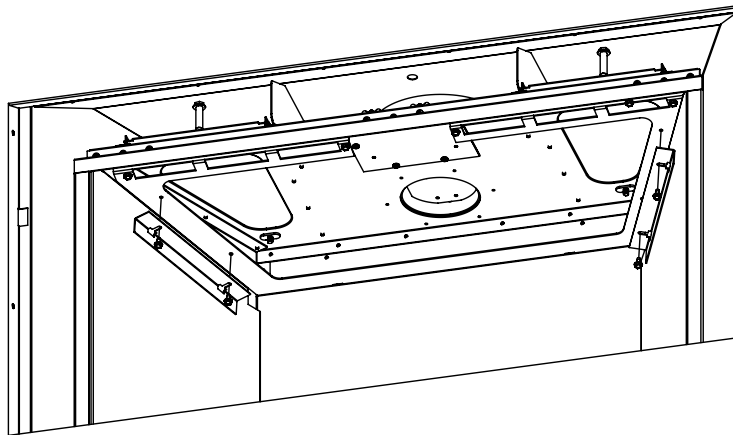

Figure 73: Liner Retainers
Step 3. Remove the liner retainers one at a time using a 5/16 socket. The screws only have to be loosened, not completely removed, as the retainers are key slotted. Remove the side liners first, then the rear (see Figure 73).